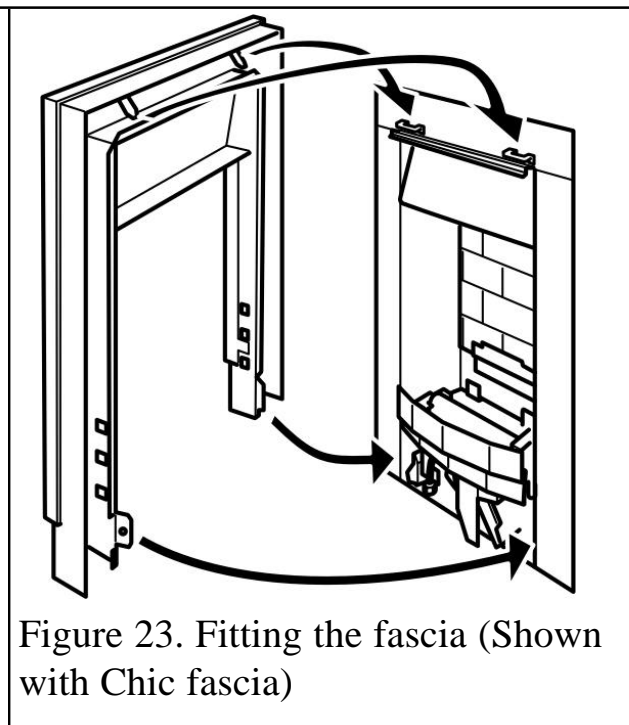
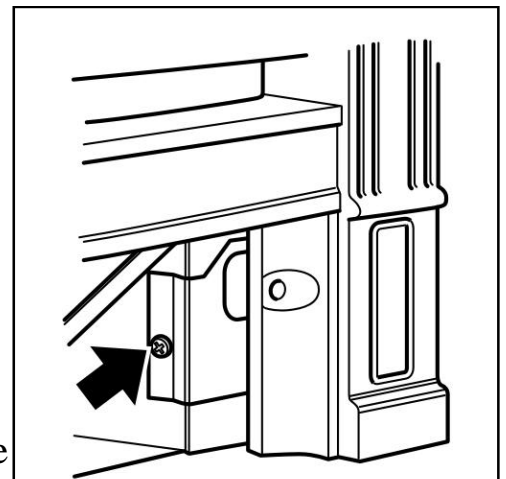

Figure 23. Fitting the fascia (Shown with Chic fascia)
Figure 24. Fascia securing screws (fascia may differ from that shown).
1. Fit the fascia to the appliance by locating the top to the upper hanging brackets (See figure 23), then attaching it to the body of the appliance using the two screws supplied (See figure 24).
4. Fit the fascia to the appliance by locating the top to the upper hanging brackets (Figure 23), then attaching it to the body of the appliance using the two screws supplied. If using the 'Hole in the wall' baffle, place the fascia brackets over the baffle and secure using the two screws for securing the fascia.
(See Figure 24).